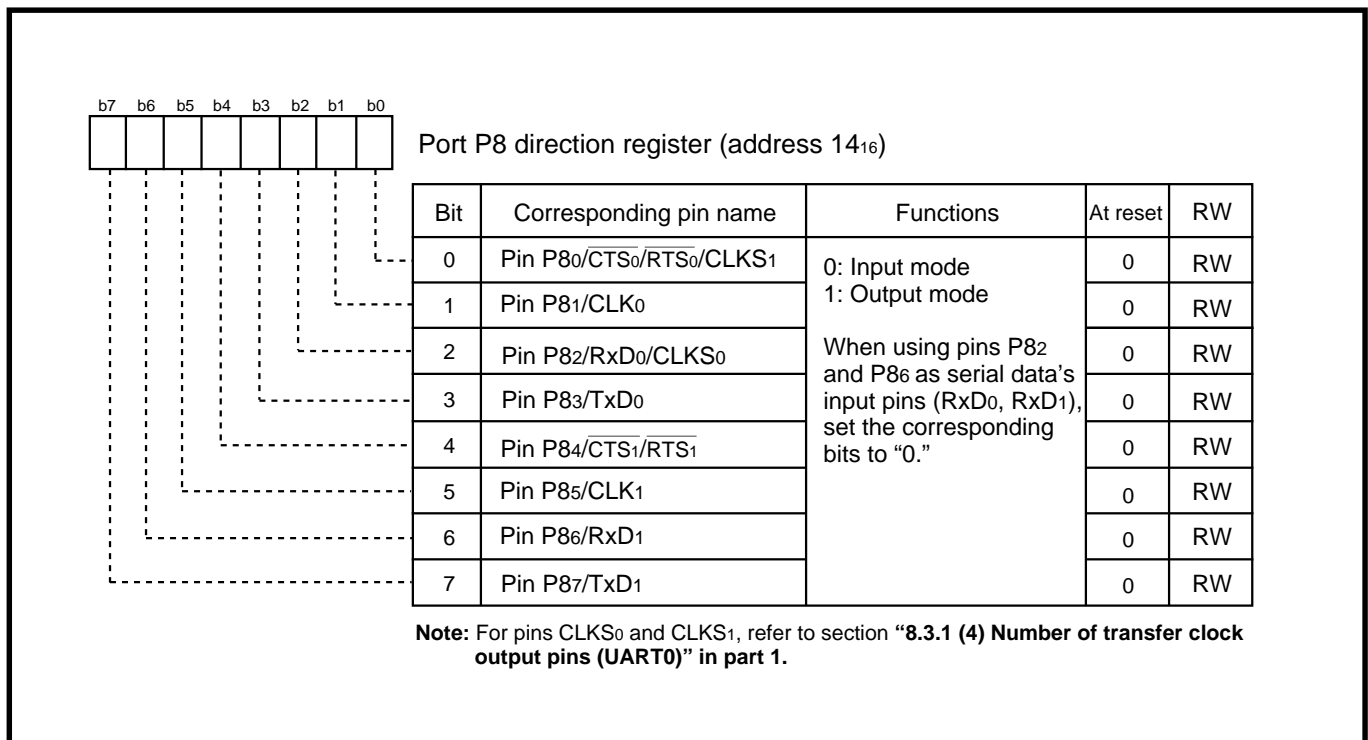

Fig. 8.2.16 Relationship between port P8 direction register and UARTi’s I/O pins
I/O pins of UARTi are multiplexed with ports P8 and P9. When using pins P82 and P86 as serial data input pins (RxDi), set the corresponding bits of the port P8 direction register to “0” to set this port for the input mode. When using pins P80, P81, P83–P85 and P87 as UARTi’s I/O pins ($\overline{\text{CTS}}_i/\text{RTS}_i$, CLKi, TxDi), these pins are forcibly set as the UARTi’s I/O pins, regardless of the port P8 direction register’s contents. Also, as for CLKS0 and CLKS1, refer to section “**8.3.1 (4) Number of transfer clock output pins (UART0)**” in part 1. Figure 8.2.16 shows the relationship between the port P8 direction register and UARTi’s I/O pins.